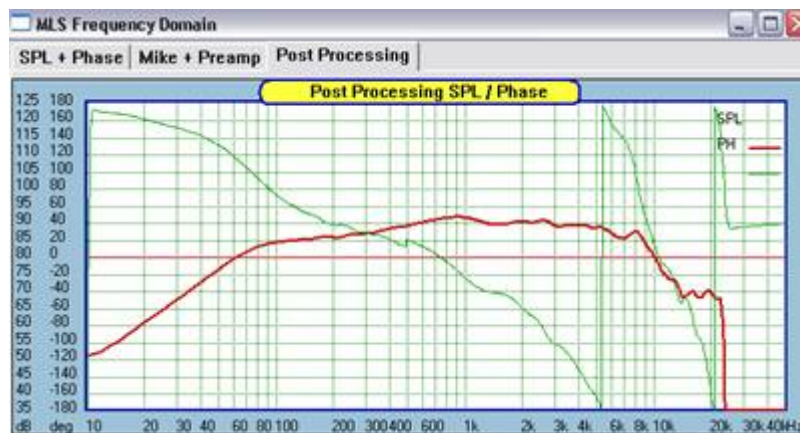

Figure 48 Merged SPL and phase response.
- To view the result, uncheck the *Show Curves* boxes for the buffers containing the far and near field responses and check the box to show the *Master Buffer*. Also check the box to view the phase. The result should appear similar to that of Figure 48.